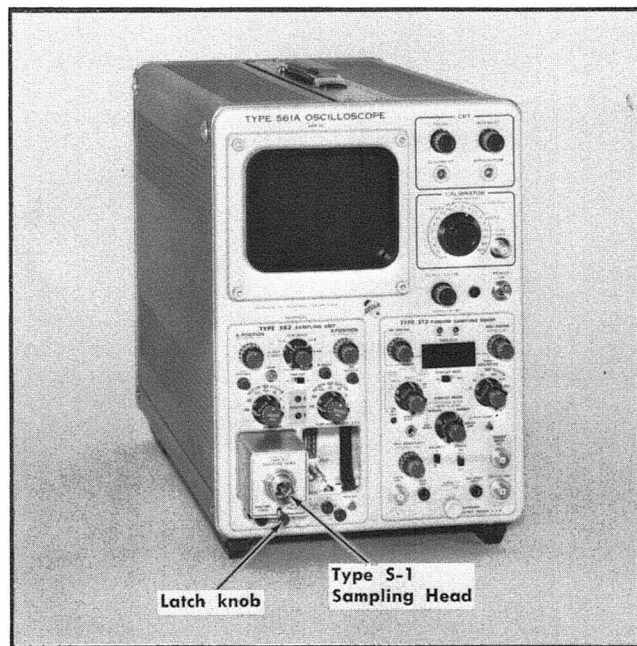

Fig. 2-1. Installation information.
Fig. 2-1 shows the Type S-1 partially installed into a Type 3S2 Sampling Unit with Type 561A Oscilloscope and Type 3T2 Random Sampling Sweep. The sampling head (or heads) can be plugged into the sampling unit as shown, or used remotely on a special extender cable. Three and six foot extender cables are available. Order the three foot extender cable by Tektronix Part No. 012-0124-00, or the six foot extender cable by Tektronix Part No. 012-0125-00. Contact your local Tektronix Field Engineer or Representative for price and availability of these optional accessories.
1. Pull the latch knob (Fig. 2-1) outward from the front panel (the latch knob will push out normally when the unit is inserted if the knob is left free to move).